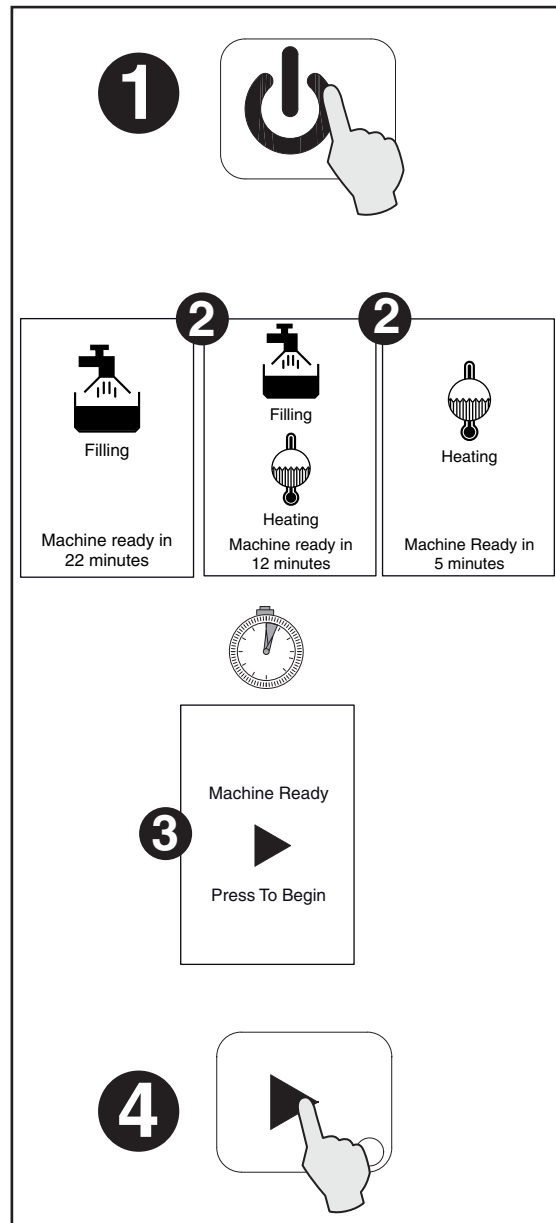

Figure 32 Starting
- Press the On/Off (point “1” - Figure 32). The machine is turning on.
- To start washing select the washing key (point “4” - Figure 32) for more details see J NORMAL MACHINE USE.